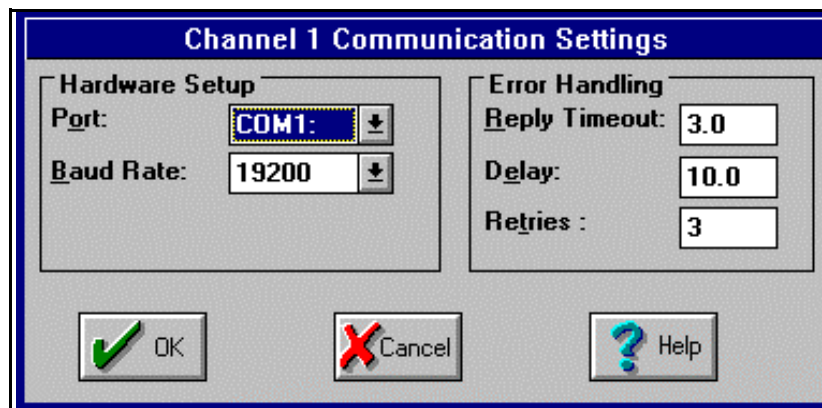

Figure 7: Channel Communication Settings Dialog Box
1. With the I/O Driver Configurator dialog box (Figure 5-1) on your screen, select the Setup button,  to display the Channel Communication Setting dialog box, as shown in Figure 7 below. Enter the communication parameters, and click OK. (Refer to Section 5.2 for more information on the communication parameters.)